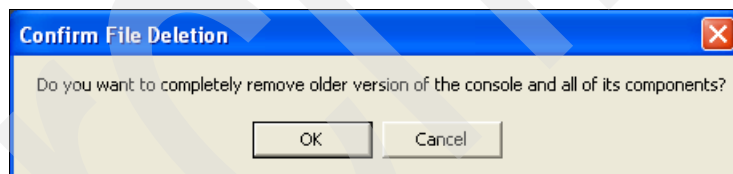

Figure 6-10 Confirm the previous file deletion
6. When the TS7530 VE for Tape Console installation starts, it checks for the existence of a previous installation. You must delete these files before the installation can continue. After the files are deleted, you can continue the installation of the TS7530 VE for Tape Console. Click **OK** on the window shown in Figure 6-10.